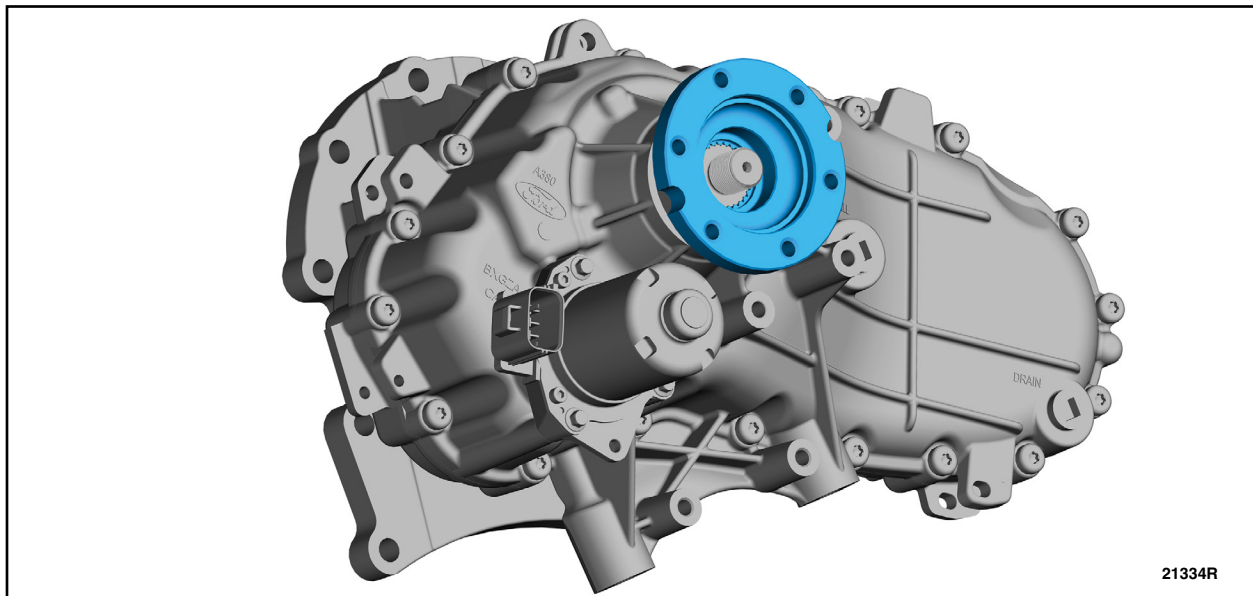

FIGURE 17
28. Install the new transfer case output flange. See Figure 17.